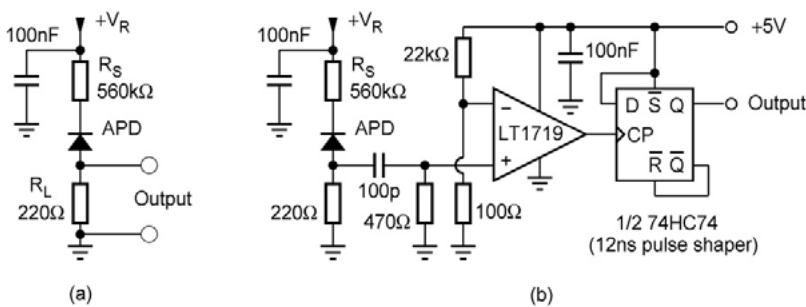

Fig. 7:
In order to fully assess the characteristics of APDs in Geiger mode one must use some kind of a quenching circuit. In most measurements a simple passive quenching (PQ) circuit shown in Fig. 7(a) can be used, optionally followed by a home-made constant level discriminator (CLD) and a 12 ns pulse shaper as shown Fig. 7(b). A threshold level of the CLD is fixed at 22.5 mV. Due to the capacitive coupling, the circuit in Fig. 7(b) can measure avalanches up to over 2 MHz and is highly immune to the paralyzation effect. If the current limiting resistor R_S is chosen sufficiently large, an avalanche will cease (quench) by itself within a sub-nanosecond timescale.